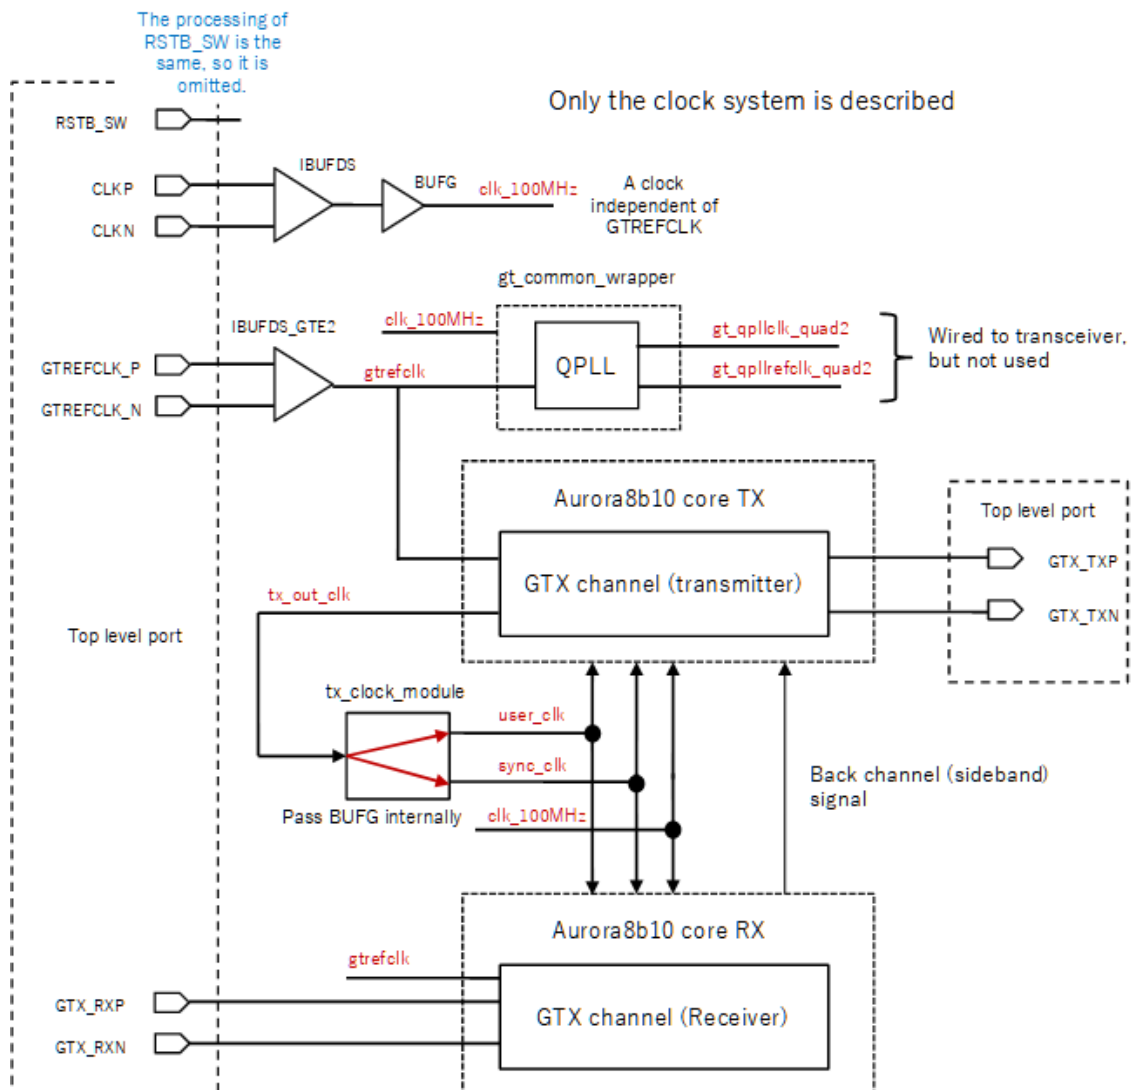

Fig. 8 : H2' s block diagram
Fig. 8 shows H2' s block diagram. Since it is difficult to do all the wiring for Aurora8b10b, only the clock wiring is described in this block diagram. For other signal lines, please refer to the example design of Aurora8b10 IP and the source codes of the teaching material for this exercise. The Aurora8b10b core requires GTREFCLK and an independent clock. Generate a 100 MHz clock from CLKP (N) and use it as a clock which is independent of GTREFCLK. The Aurora8b10 core user interface is synchronous to user\_clk. We also need a sync\_clk for the GTX channel. Both of these two are from tx\_out\_clk. user\_clk is a global clock, and the peripheral circuits of Aurora8b10b should also be driven by user\_clk.